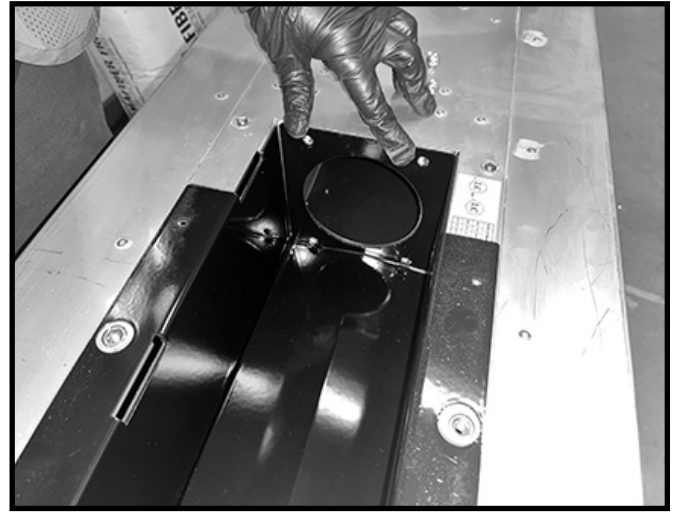

Figure 43: Reinstall end plates.
5. Reinstall the decorative porcelain end cover plates. (Figure 43)